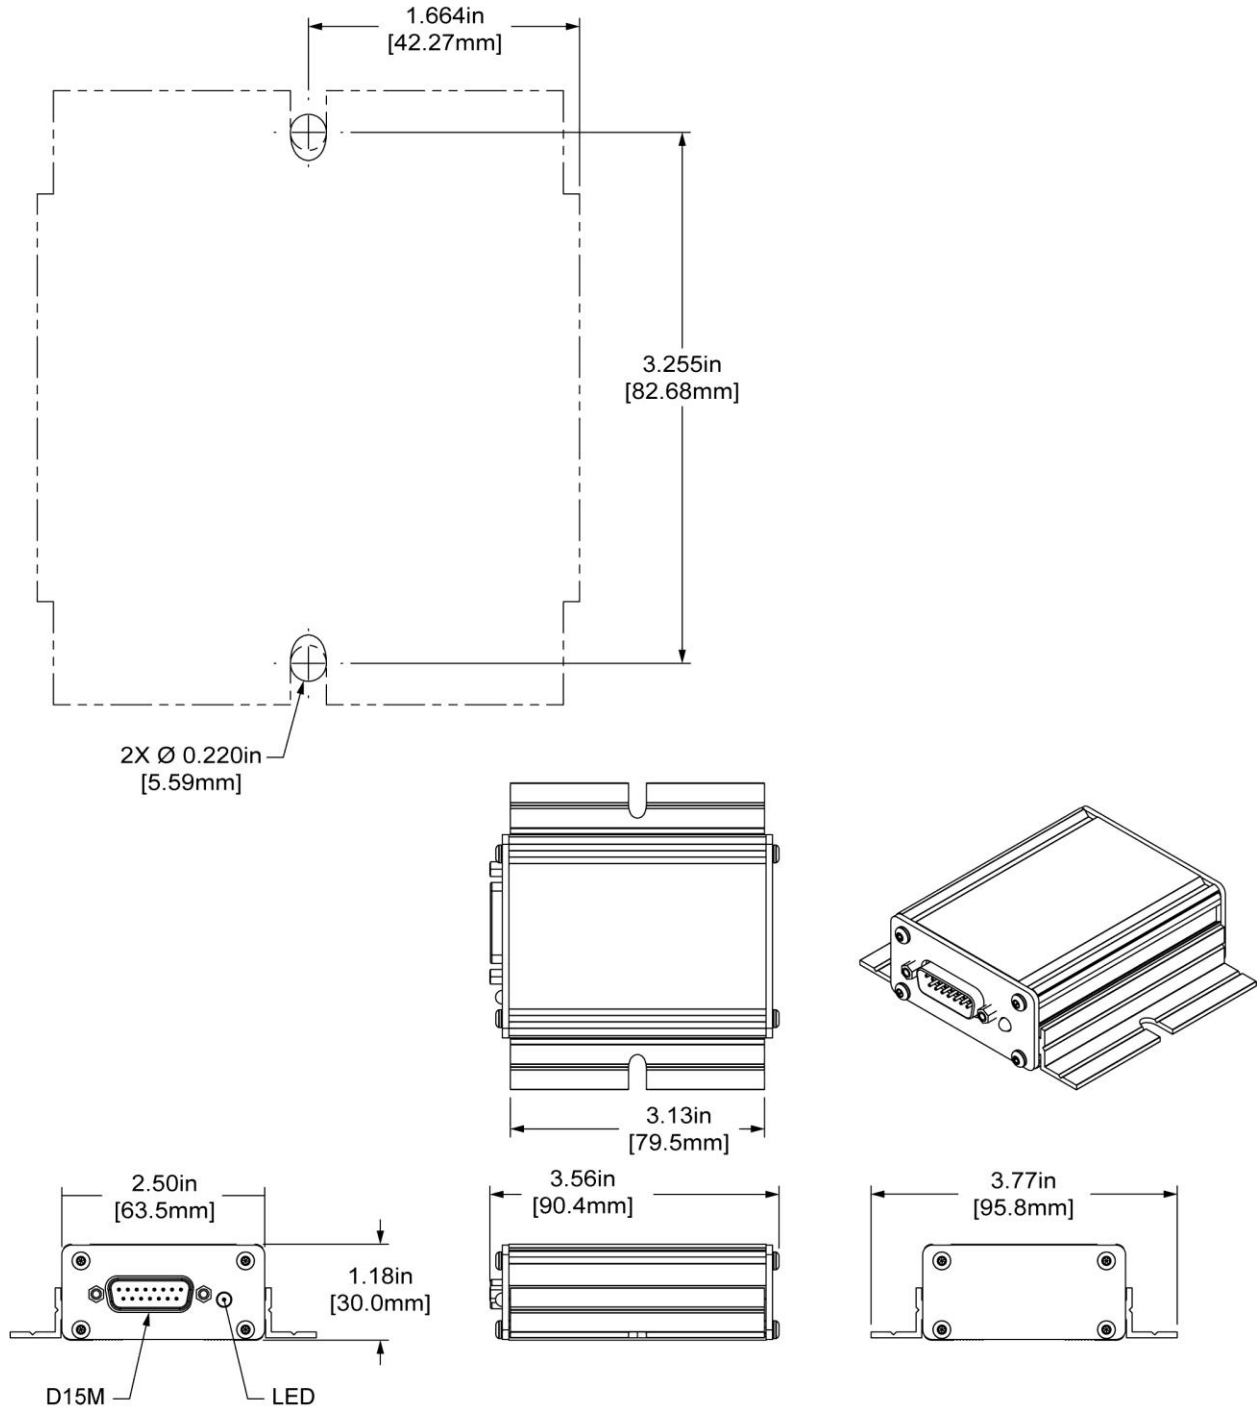

Figure 130: SV-AP-TRIMAMP Installation Dimensions
- Mounting location should have adequate space for module, electrical connections, and servicing (see Figure 130 for mounting dimensions).
2. Use Figure 130 and mounting holes on unit as template to mark hole locations on airplane structure.